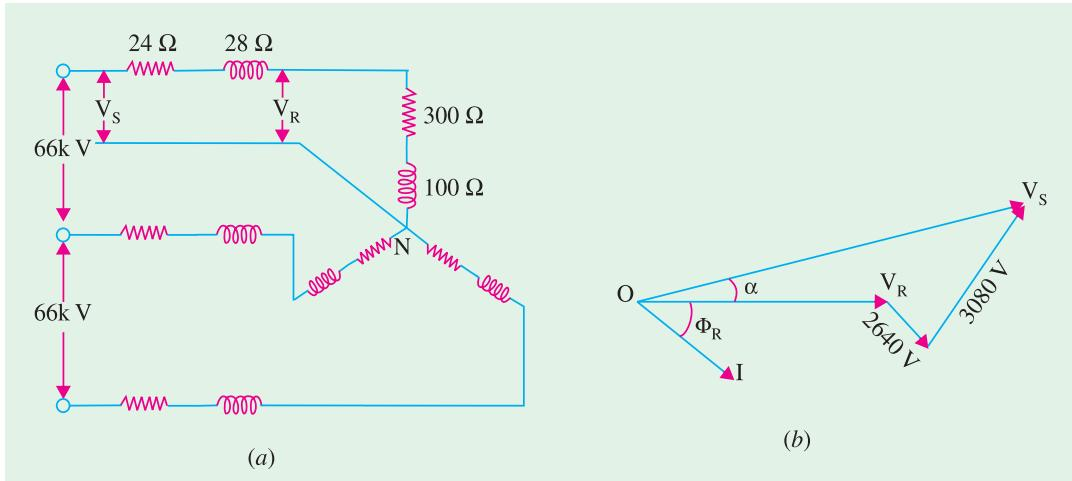

Fig. 41.25
**Solution.** The circuit connections are shown in Fig. 41.25.
Obviously,  $V_S$  leads  $V_R$  by  $3.1^\circ$  as shown in Fig. 41.25 (b).
As seen from Fig. 41.25 (b),  $\alpha = 2.4^\circ$ , Now,  $\cos \phi_R = 0.8$ ,  $\phi_R = 36.9^\circ$